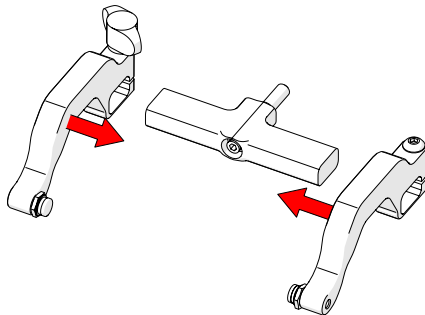

Fig. 204 - Place arms back onto yoke
6. Place the probe holder arms on the yoke and tighten the arm clamp screw and probe holder adjustment knob (Fig. 204).